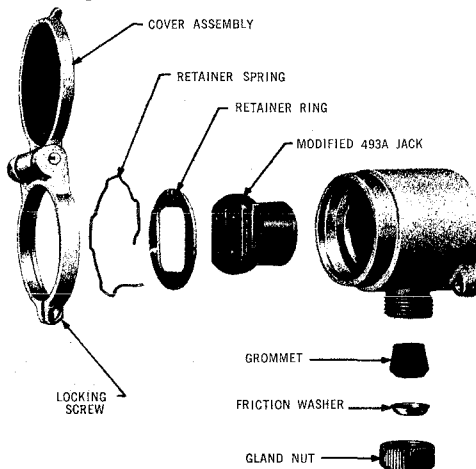

Fig. 15 — Assembly of KS-16151, List 1 Jack
6.04 Assemble and install the KS-16151, List 1 jack when used without conduit (Fig. 15 and 16) as follows: